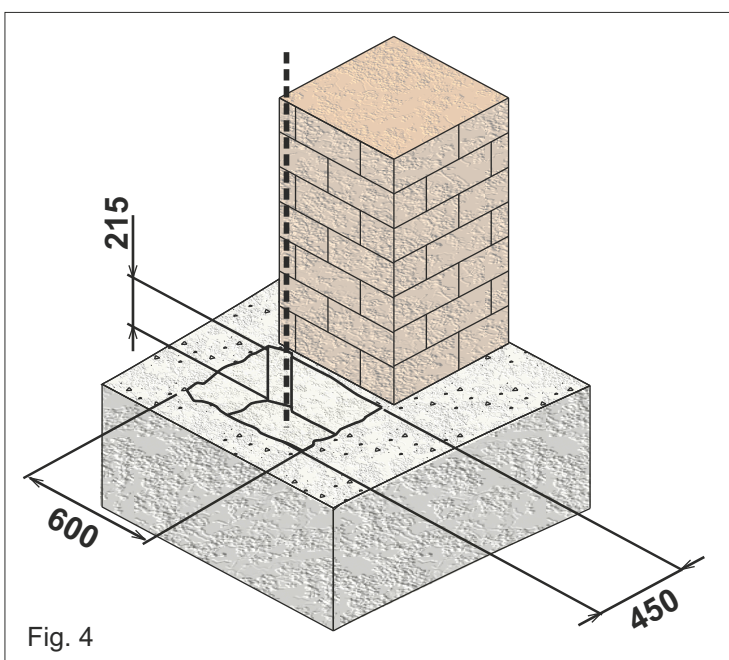

Fig. 4
- 2.1. Based on the measurements shown in Fig. 4, prepare an excavation inside which the foundation box will be cemented